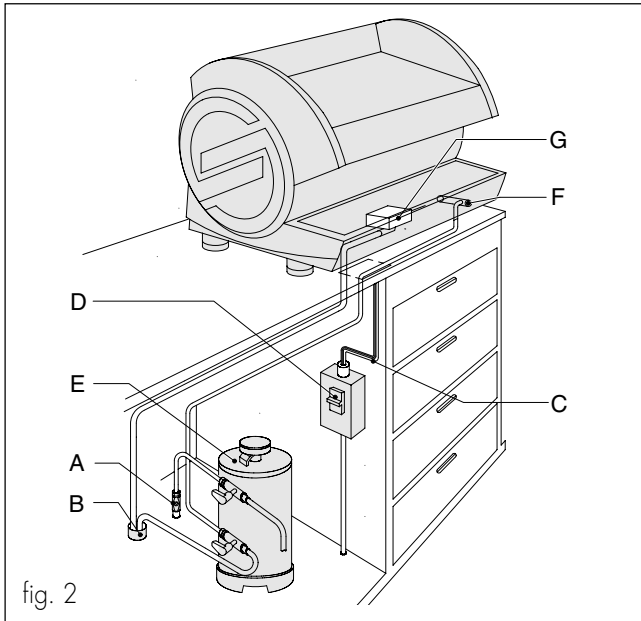

fig. 2
Open the mains water supply tap (A) (fig 2).
Close the protection switch (D) (fig 2).